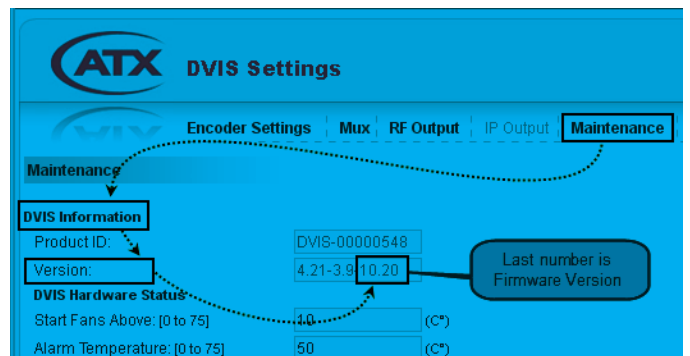

Figure 12-11: Check Firmware Version
6. Click **Maintenance** and verify that 'Version' is the same as the name of the upgrade file, see Figure 12-11.